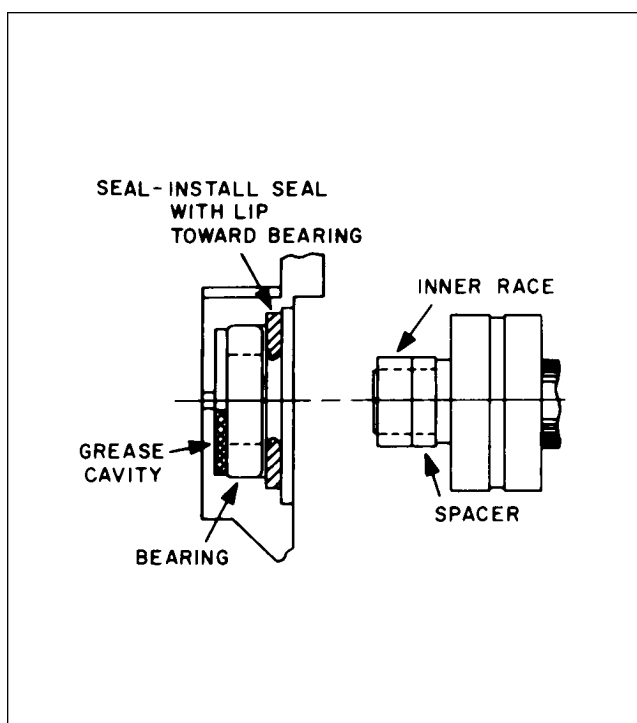

Figure 24-38. Slip Ring End Bearing Assembly
5. Install the slip ring end bearing and oil seal. Make sure the lip of the oil seal is toward the bearing. Stake the seal in place. Correct assembly of bearing, seal, inner race and spacer as shown in Figure 24-38.